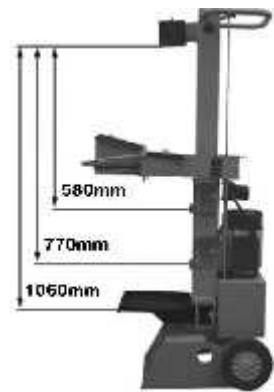

Fig.10
4.2.2.3- Table height adjustment (Fig.10)